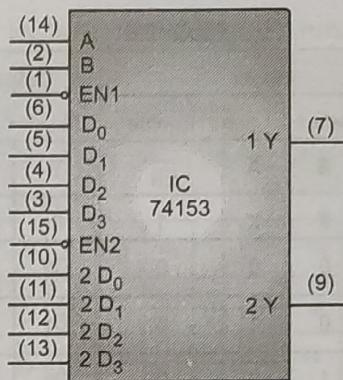

Fig. 2.29 : Logic symbol for 74153
- IC 74153 is a dual 4 to 1 multiplexer Fig. 2.29 shows the symbol of IC 74153.